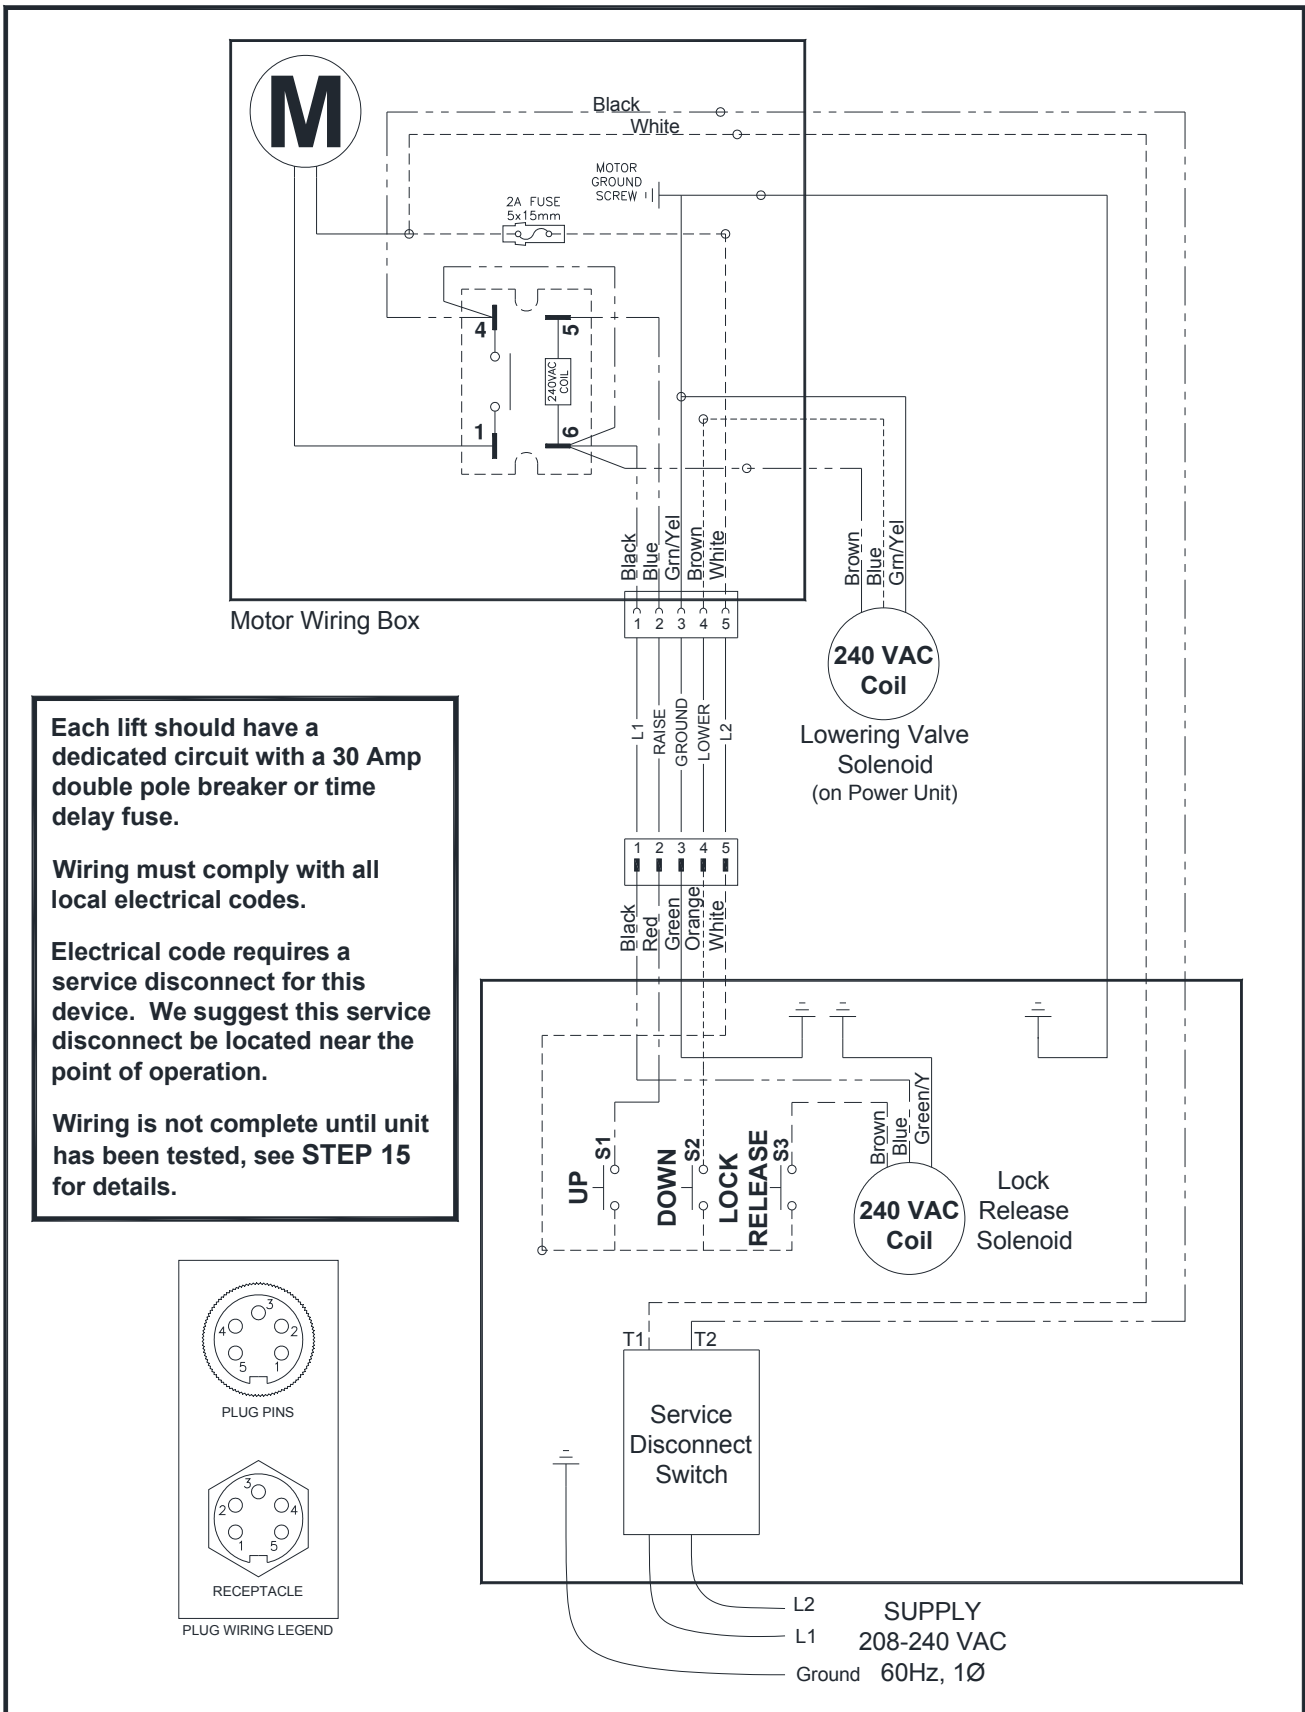

Fig. 11 – Electrical Wiring Diagram
9) Connect Power Unit to suitable electrical source as shown in Fig. 11.